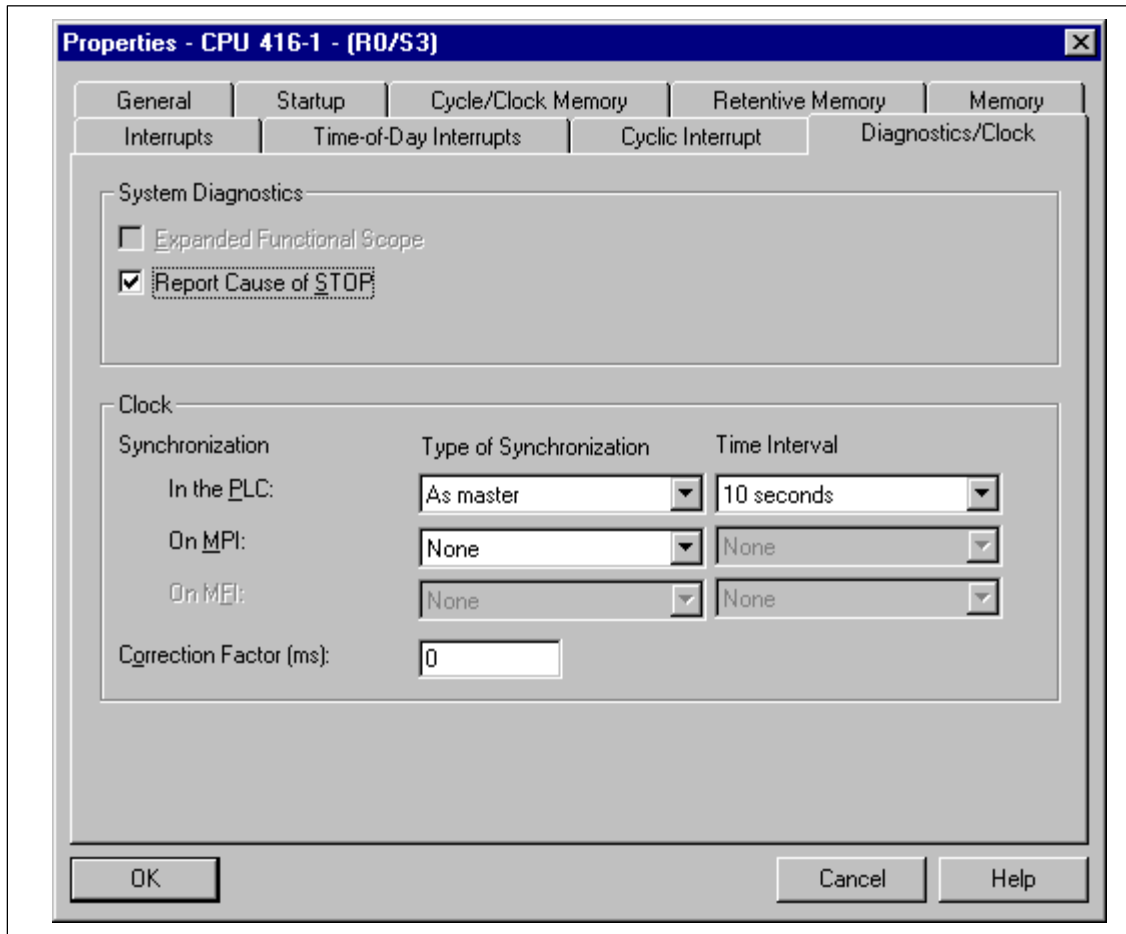

Figure 7-16 Setting a Period
3. Set the synchronization mode and the interval as shown in Figure 7-16.